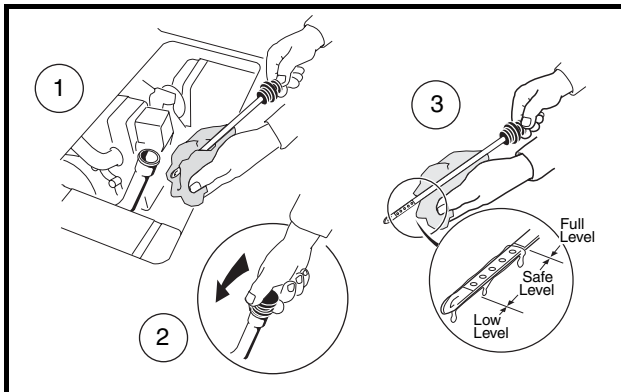

Figure 27 Engine Oil Level Check
1. Remove the oil level dipstick from the oil filler tube and wipe oil from dipstick (**Figure 27**). **See following CAUTION.**